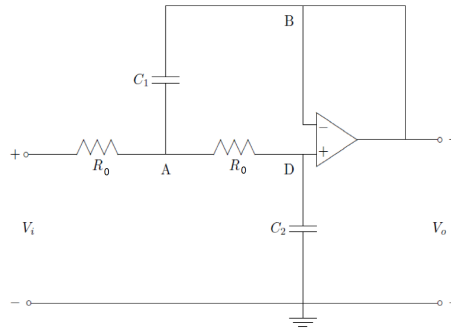

Figure 1: Plant Circuit
1. Construct the plant circuit according to Figure 1. Where  $R_0 = 10k\Omega$ ,  $C_1 = 100\mu F$ ,  $C_2 = 0.22\mu F$ .